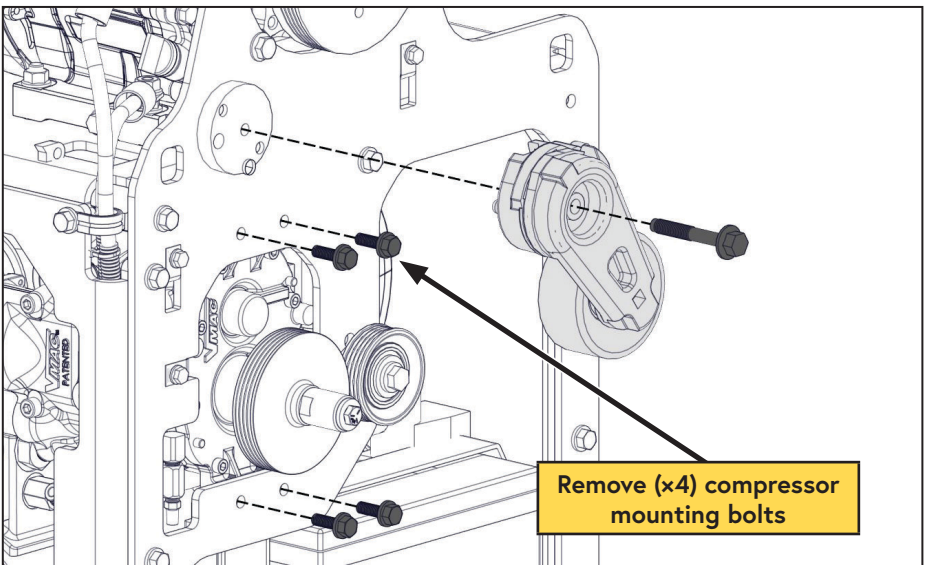

Figure 68 — Remove compressor
- ☐ Remove the tensioner (to gain access to the top compressor bolts) (Figure 68).
- ☐ Remove the (x4) bolts securing the compressor to the belt guard (Figure 68).